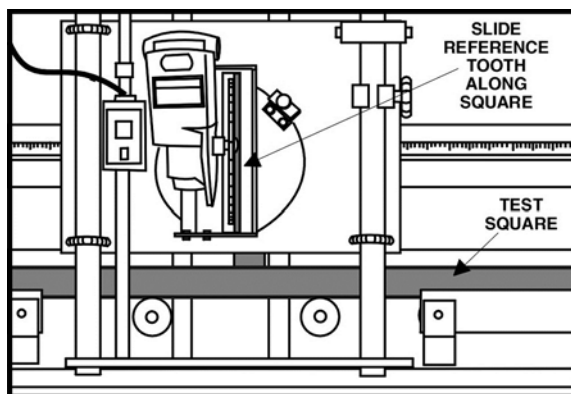

Figure 19
3. Pull the carriage down until the reference tooth of the blade just touches the vertical edge of the test square, Figure 19. Continue pulling the carriage down; if the blade does not contact the square, or the blade binds properly, the guides are not aligned properly.